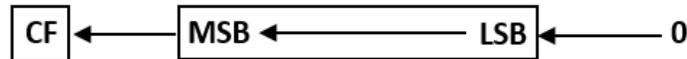

Fig. 2.16
The SHL instruction is an abbreviation for 'Shift Left'. This instruction simply shifts all bits in the register to the left side one by one. The LSB is replaced by a ZERO and MSB is stored in the Carry Flag (CF) as shown in fig. 2.16.